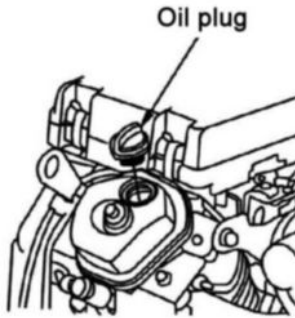
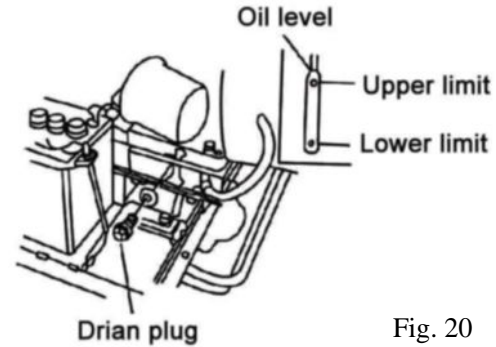

Fig. 19
Fig. 20
- 1) Turn off the oil filler cap (Fig.19) and drain plug (Fig.20) to drain engine oil thoroughly. Reinstall the drain plug and screw securely.**